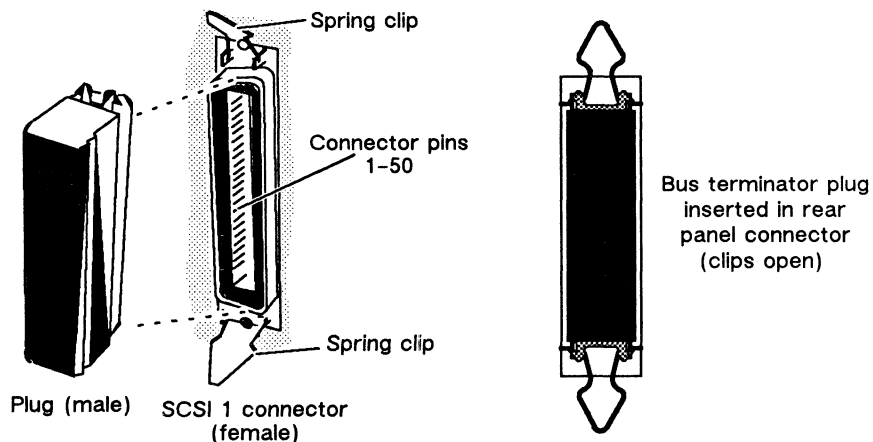

Figure 2-12 Plugging Together SCSI Terminator Connectors
2. Align the connector pin numbers and the D-shaped connector bevels before gently inserting the the plug in the SCSI 1 connector, as shown in Figure 2-12.